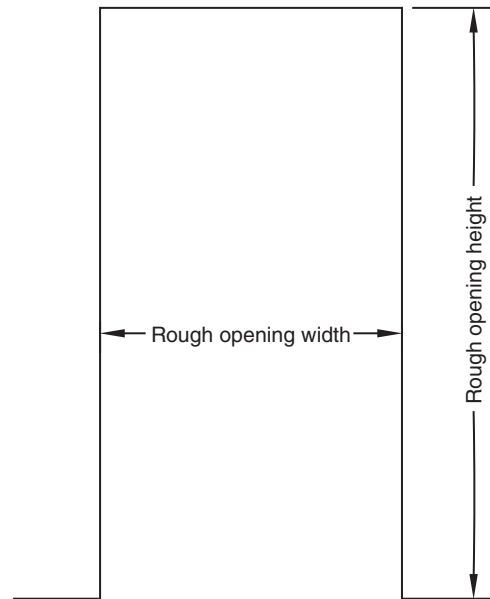

Figure 29 – Rough opening per manufacturer recommendations
11.1 Prepare rough opening (see Figure 29) per frame manufacturer's recommendations.